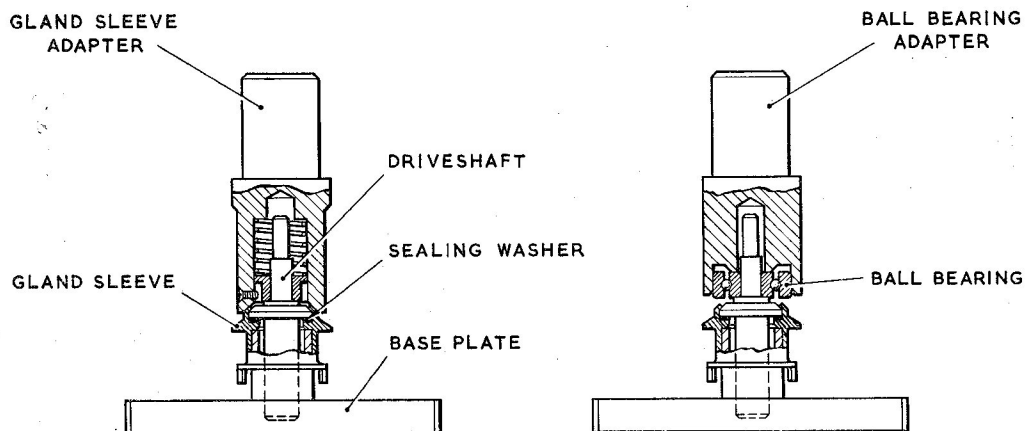

Fig. 3. Fitting gland sleeve and ball bearing
14. (1) Place the gland sleeve, tongues downwards, on the tool base plate TV.8682 as shown in fig. 3.